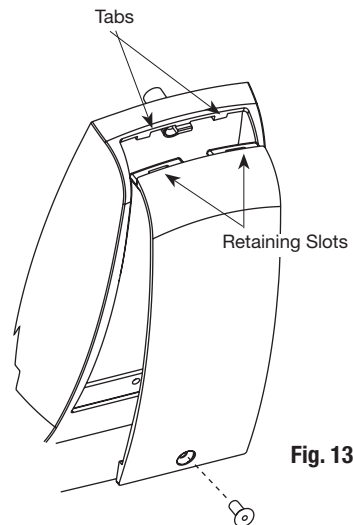

Fig. 13
2. Secure with security screw using provided security tool (Fig. 13).